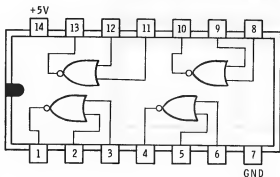

Figure 5-51
8. Mount the 7402 IC on the Experimenter socket. Figure 5-51 shows the 7402 IC pin connections. Connect pin 14 to +5 volts (POS) and pin 7 to GND.